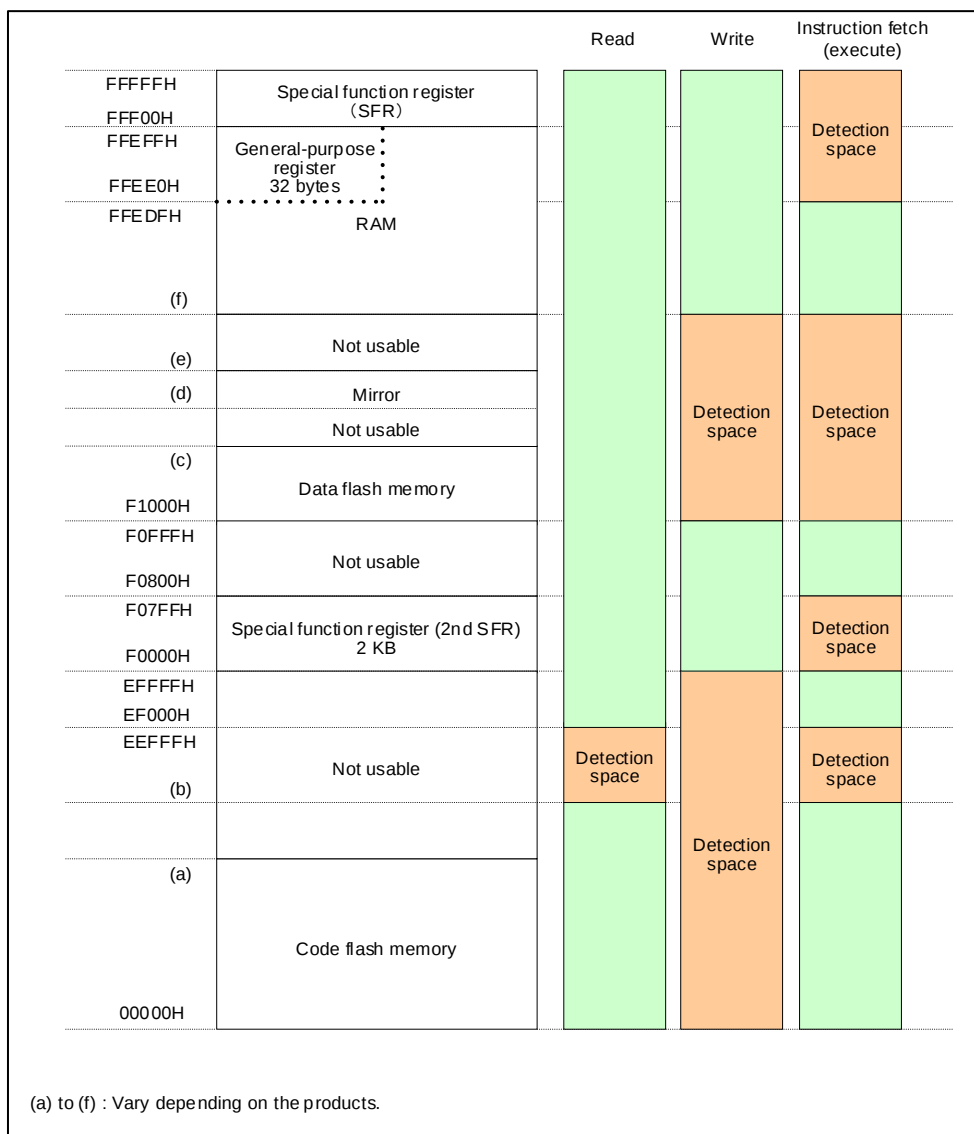

Figure 9-1 Invalid Access Detection Area
The invalid memory access detection function triggers a reset if an invalid access detection space (see Figure 9-1) is accessed.
- (1) When the value of bit 4 (WDTON) in the user option byte (000C0H/020C0H) is set to 1, the invalid memory access detection function is enabled regardless of the setting value to the IAWEN bit.
- (2) With a product having a code flash memory whose size is 16KB/32KB/48KB, a value “FFH” will be read if the space [between the start address of the code flash memory (the address “(a)” in Figure 9-1) and the address 0FFFFH] is invalidly accessed. Also, if an instruction fetch is executed in the same space by an invalid access, a reset is generated due to execution of the invalid instruction.
- (3) With a product having a code flash memory whose size is 96KB, a value “FFH” will be read if the space [between the start address of the code flash memory (an address “(a)” in Figure 9-1) and the address 1FFFFH] is invalidly accessed. Also, if an instruction fetch is executed in the same space by an invalid access, a reset is generated due to execution of the invalid instruction.